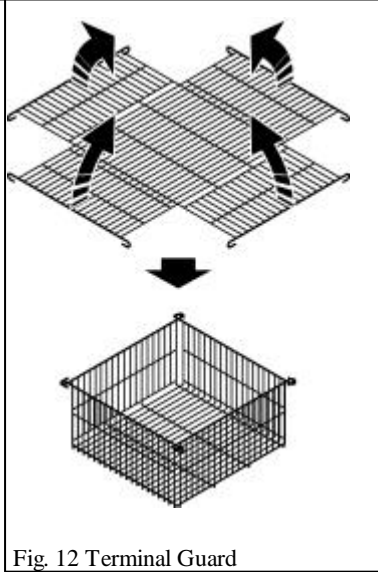

Fig. 12 Terminal Guard
- Fold the terminal guard as shown in figure 12.